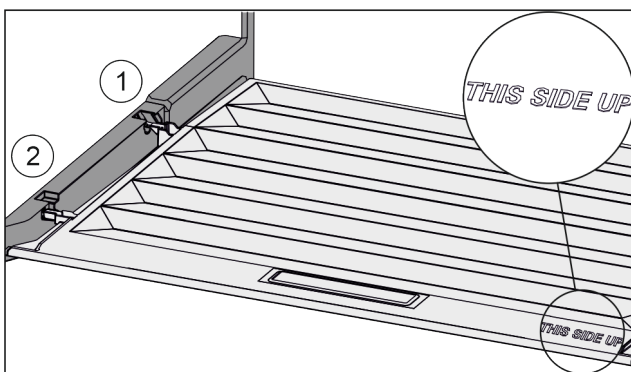

Fig. 55
- ▶ Insert the lip of the cover over the opening of the rear bracket Fig. 55 (1) and click into place Fig. 55 (2).